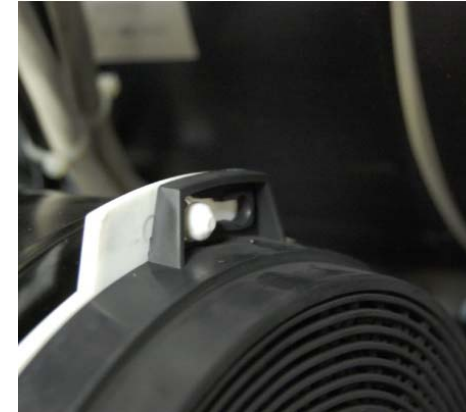

Fig. 3a
- Insert the charcoal filters on each side of the motor on top of the white protective grill as shown below. (Fig. 3a)